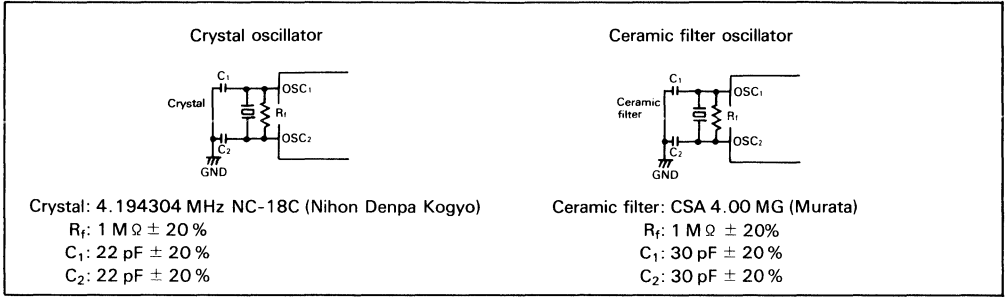

Figure 36. Oscillator Circuit
1. Oscillator stabilization time is the time until the oscillator stabilizes after V_{CC} reaches its minimum allowable voltage (3.5 V) after power-on, or after RESET goes high. At power-on or stop mode release, RESET must be kept high for at least t_{RC} . Since t_{RC} depends on the crystal or ceramic filter's circuit constant and stray capacitance, please get the manufacturer's advice when designing the RESET circuit. (See figure 36)